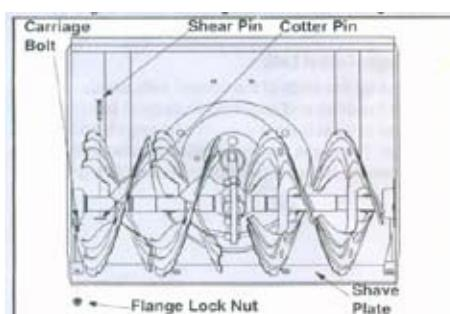

FIG.16
- The augers are secured to the spiral shaft with two shear pins and cotter pins. If you hit a hard foreign object or ice jam, the snowblower is designed so that the pins may shear. Refer to figure 16.
- To remove skid shoes, remove four carriage bolts and flange lock nuts. (See fig. 16)